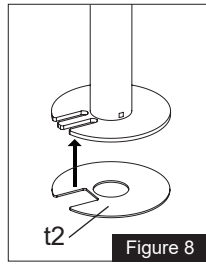

Figure 8
3. Attach Soft Pad (T2) to the Grommet Base Plate (M), see Figure 8.